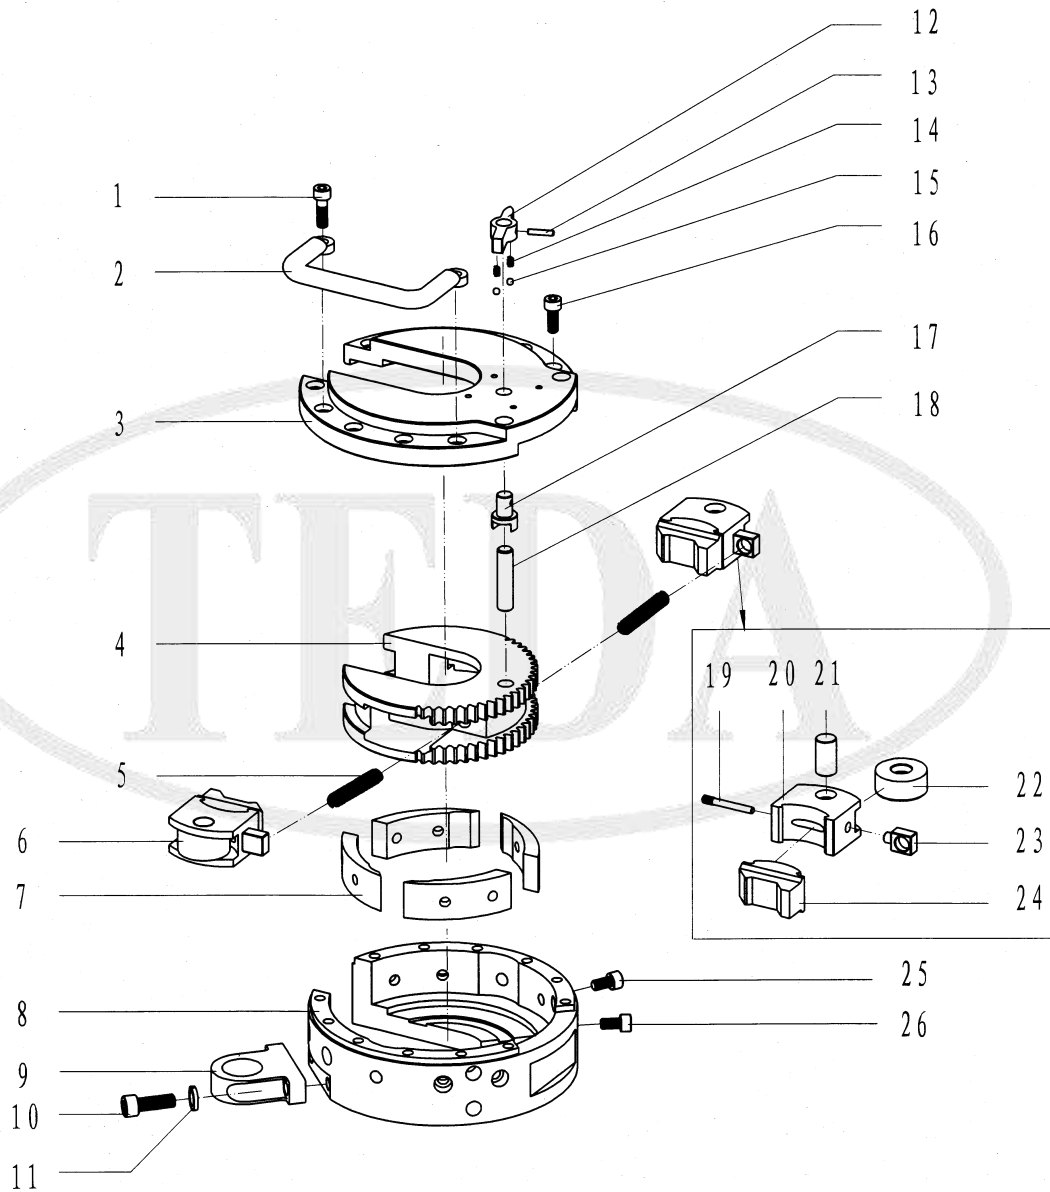

Fig.13 Backup head assembly
9.11 Backup tong head assembly and parts list (Fig.13, Table 11)